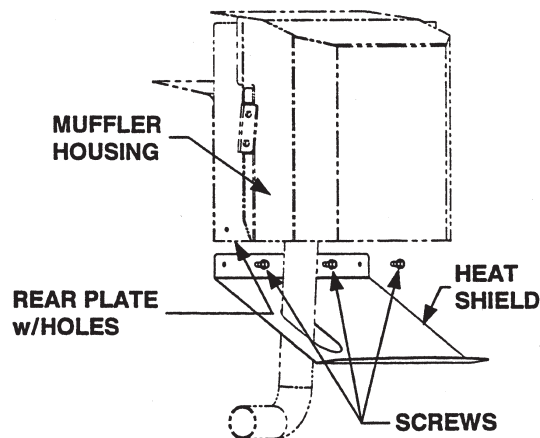

Figure 3
6. Secure the shield to the muffler housing using the three screws provided in the kit (See Figure 3). *NOTE: If the grille was not removed, the screws can be installed by accessing through the lower slots of the grille.*